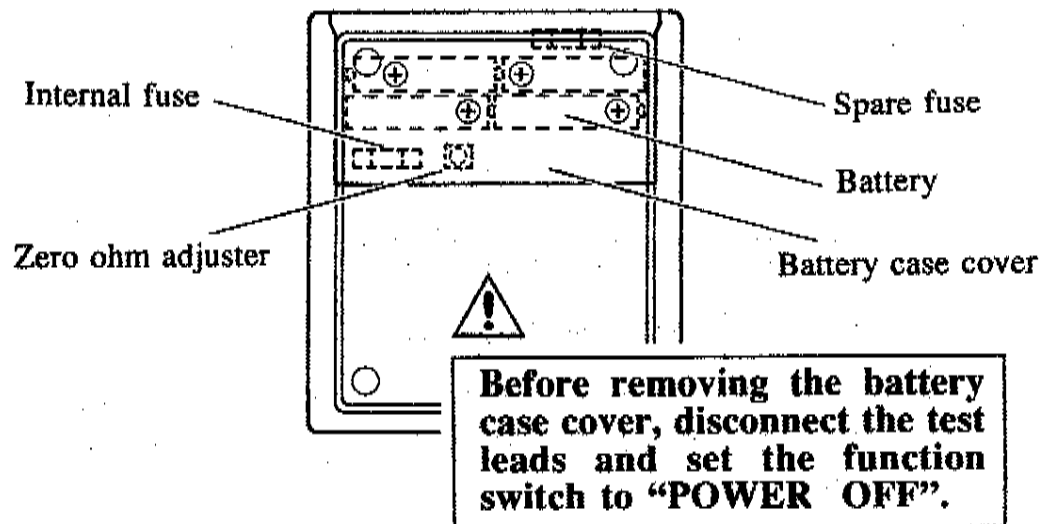

Fig. 8 Specified Locations of Batteries and Fuses
- (1) Connect the test lead plugs to the measurement terminals (-COM) and (\pm).
- (2) Set the function switch at "Ω".
- (3) Set the range hold switch to "AUTO".
- (4) Measure the resistance by touching the equipment to be tested with the test pins.
- (5) Read the indication by referring to the range display. This value will be the resistive value to be measured.
- (6) After measurement, remove the test pins from the equipment under test.
- (7) Return the function switch to "POWER OFF".
- **Zero Ohm Adjuster** (See Fig. 8 in para. 5-1)
5-1 Internal Fuse Replacement (See Fig. 8)
5-2 Internal Battery Replacement (See Fig. 8)